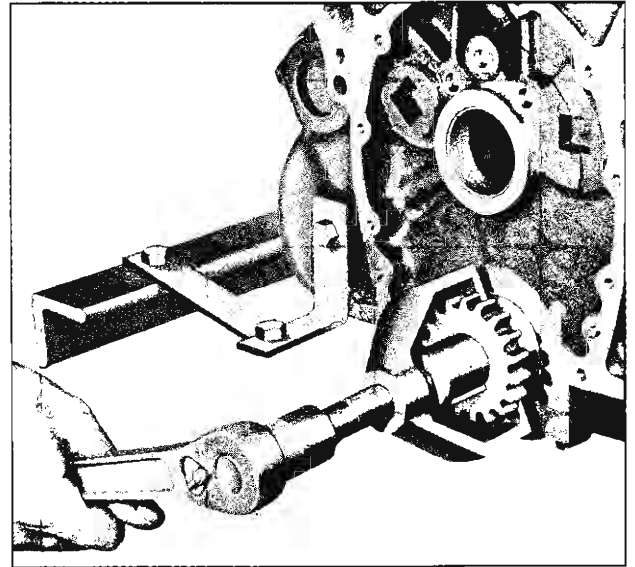

Fig. 100—Removing Crankshaft Sprocket
7. Remove crankshaft sprocket using Tool J-5825 (fig. 100).